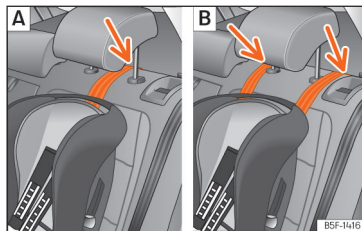

Fig. 38 Rear seats: adjustment and assembly according to the Top Tether belt.
- Position the belt under the headrest (according to the instructions of the seat itself, lift or remove the headrest if necessary) >>> **Fig. 38**.